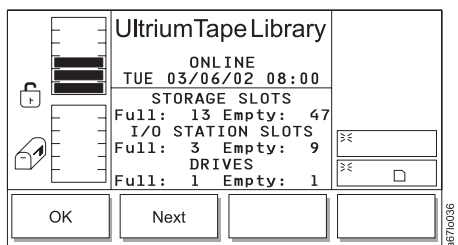

Figure 4-24. System Dialog
3. Press the button below the **System** softkey. The System Dialog displays (see Figure 4-24). The screen gives the quantity of full (occupied) and empty storage slots, I/O station slots, and drives.